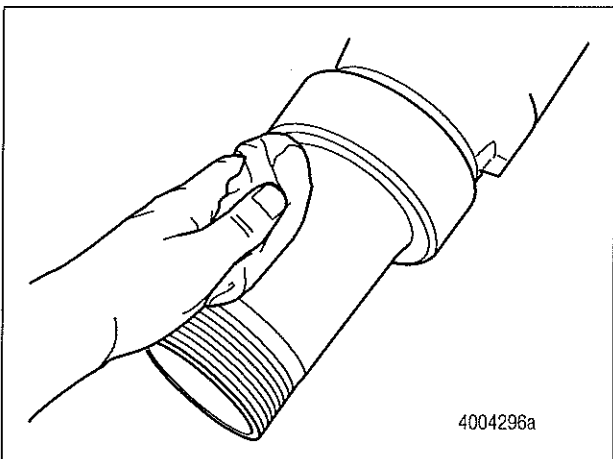
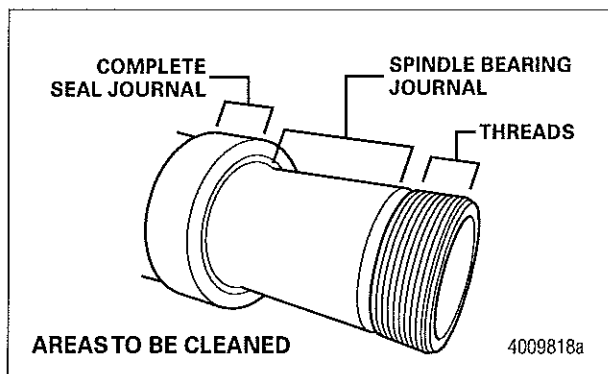
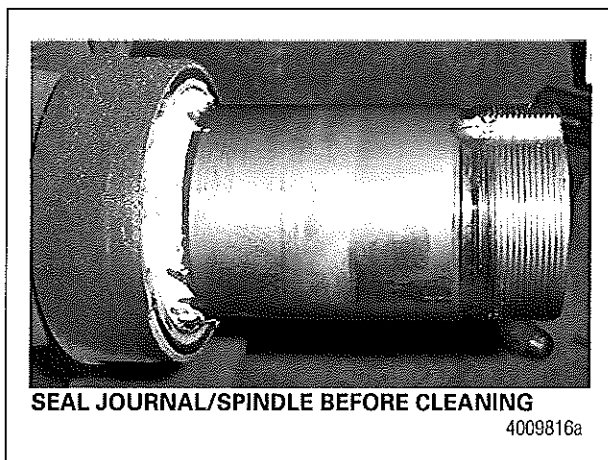
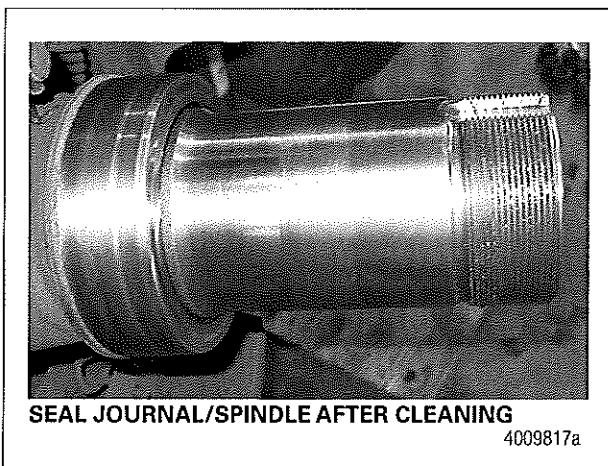

Figure 11
Figure 12
Figure 13
Figure 14
1. Clean the axle spindle and oil seal journal by wiping with a clean rag and using solvent. If needed, these areas can be cleaned using emery or crocus cloth. Figure 11 and Figure 12. Figure 13 and Figure 14 are before and after cleaning examples.
6. Check and clean the spindle threads. Figure 12.